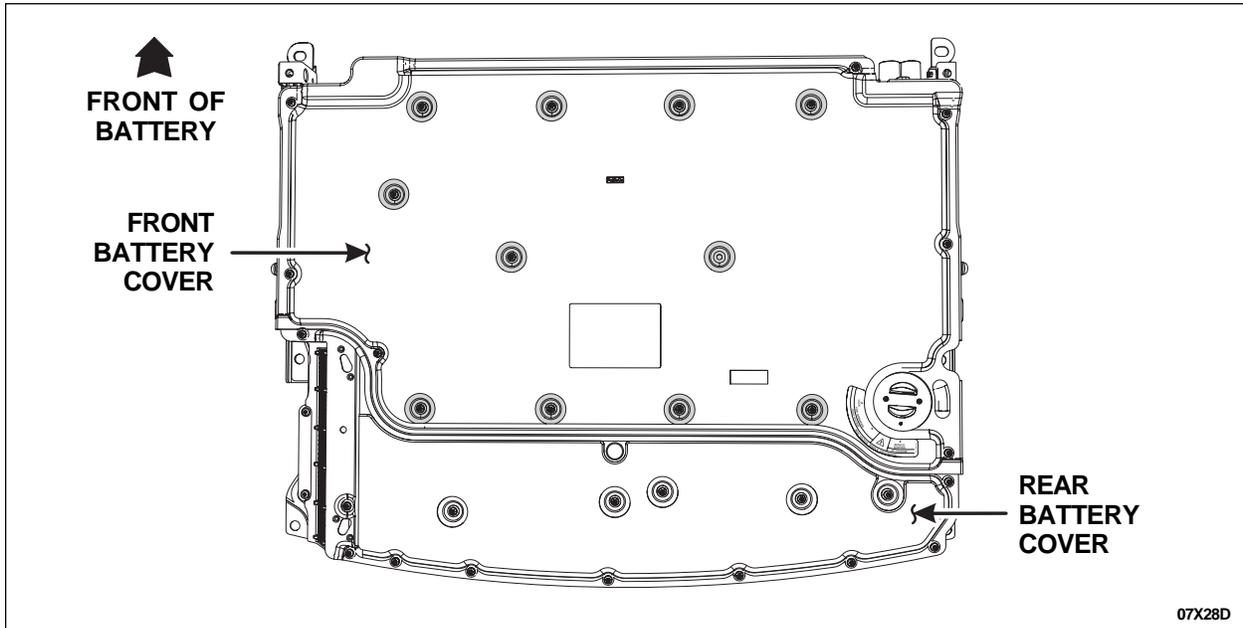

FIGURE 16
24. Install the 18 Torx screws finger-tight in the front battery cover. Do not tighten the screws at this time. See Figure 16.